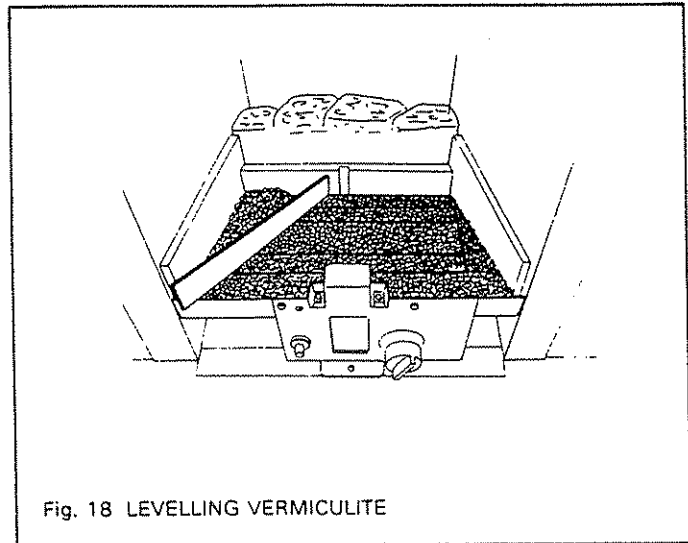

Fig. 18 LEVELLING VERMICULITE
7.7.3 Pour the vermiculite into all the burner unit cavities. Using a flat implement (a steel rule, straight piece of pipe etc.), level the vermiculite so that the top edges of the burner unit compartments are visible. Lightly tamp down the vermiculite. When levelling, make sure that none of the vermiculite is pushed into the pilot burner outlet (see fig. 18). N.B. There will be some vermiculite left over for future use. Please hand this over to the user.